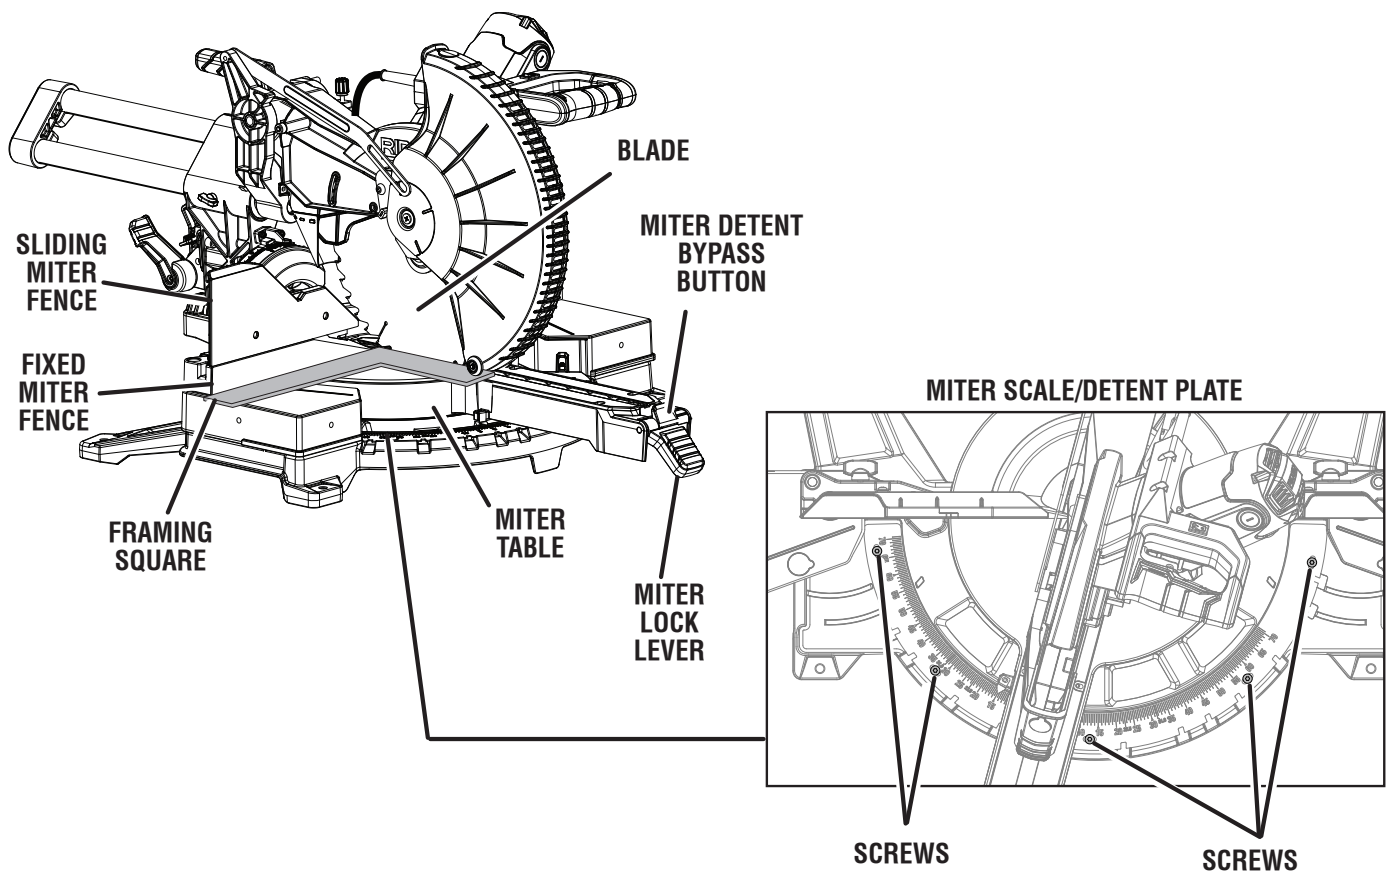

Fig. 21
See Figures 21 - 25.
- The edge of the square and the saw blade should be parallel as shown in figure 21.